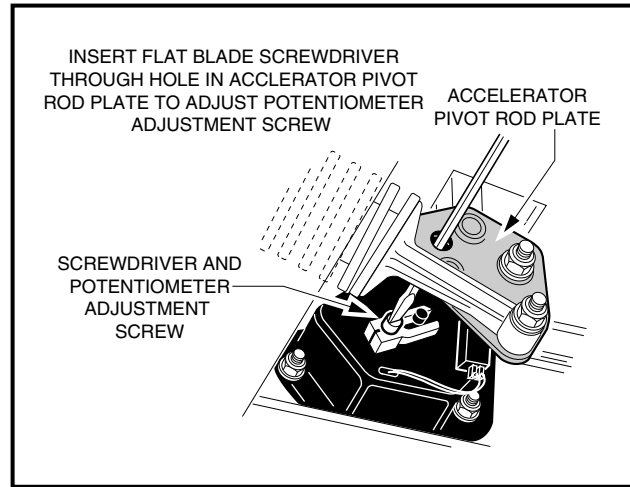

Figure 5-20 Potentiometer Adjustment Screw
- 6.8. Using a potentiometer adjustment tool or very small flat blade screwdriver (electronics type), turn the potentiometer adjustment screw until the CTM reads from 3.38 to 3.42 volts (**Figure 5-20, Page 5-12**). Then tighten the potentiometer locknut to 5 in-lb (.6 N-m).